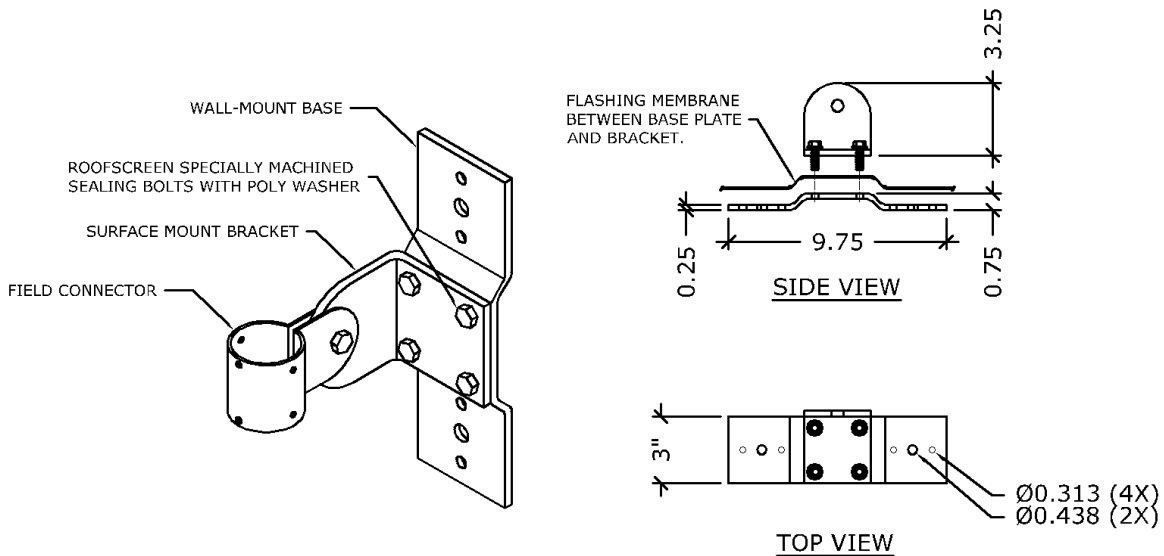

Figure 5
When the wall is waterproofed with a coating or membrane, the Watertight Wall-Mount Assembly is the best choice. The assembly consists of a Wall-Mount Base, a separate Surface Mount Bracket and (4) specially machined Sealing Bolts. The Wall-Mount Base is first attached to the wall using fasteners appropriate for the type of substrate being attached to. A flashing membrane (by others) may then be applied over the Base and roofed into the wall. Holes are cut in the flashing membrane to align with the (4) holes in the Surface Mount Bracket. Sealant may be applied to the flat surface around the holes. When the Surface Mount Bracket is installed, the (4) Sealing Bolts compress the flashing membrane between the Base and Bracket like a gasket. See Figure 5.